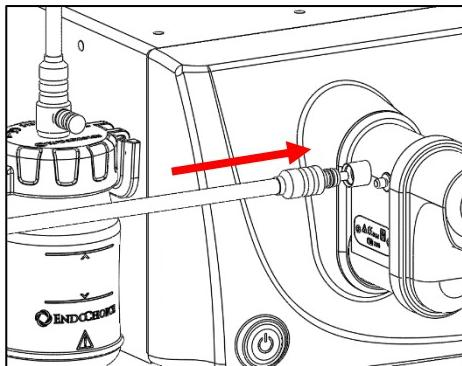

Figure 4.
2. Push the Tube Connector gently onto the air/water port on the endoscope (see Figure 4).